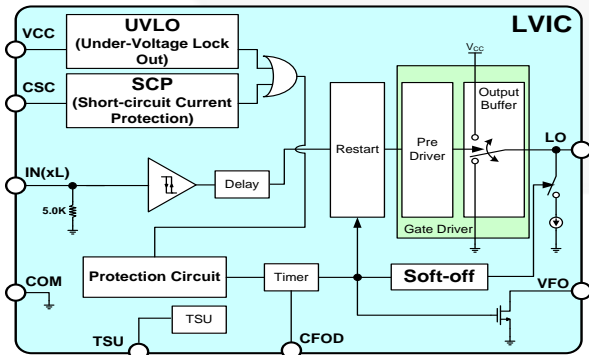
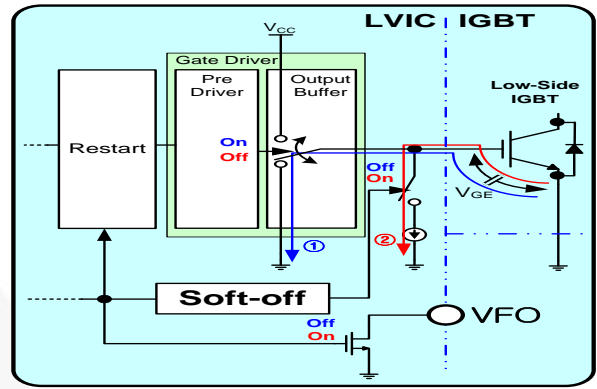

Figure 31. Internal Block Diagram of LVIC
Figure 32. Operating Sequence of Soft Turn-Off
An internal block diagram of LVIC and operation sequence of soft turn-off function is shown in Figure 31 and Figure 32. This function operates by two internal protection functions (UVLO and SCP). When the IGBT is turned off in normal conditions, LVIC turns off the IGBT immediately by turn-off gate signal ($IN(xL)$) via gate driver block. Pre-driver turn-on output buffer of gate driver block, path ①. When the IGBT is turned off by a protection function, the gate driver is disabled by the protection function signal via output of protection circuit (disable output buffer, high-Z) and output of the protection circuit turn-on switch of the soft-off function. V_{GE} (IGBT gate-emitter voltage) is discharged slowly via circuit of soft-off (path ②).